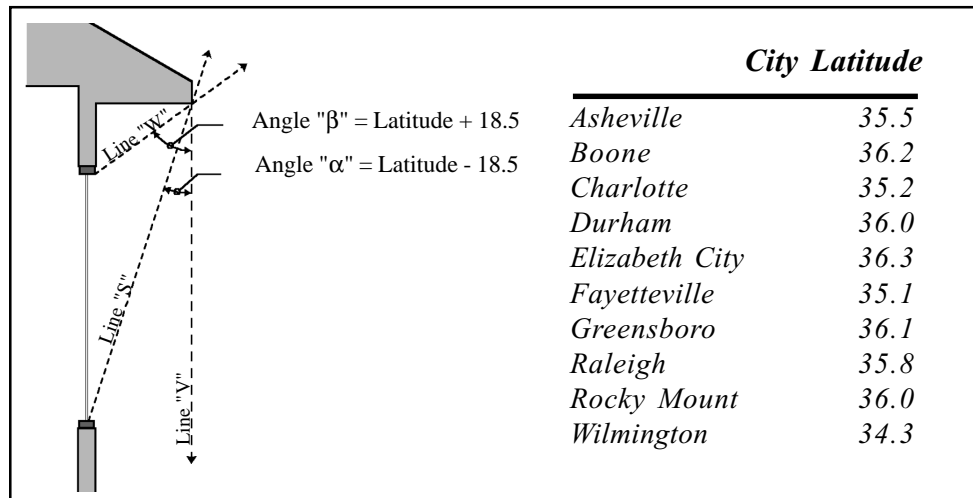

Figure 3. Calculating overhangs for sites in North Carolina
*Figure 3*, taken from *Building with Passive Solar* by the Southern Solar Energy Center, illustrates how orientation affects overhang effectiveness. The chart is designed to size overhangs to provide shading for the five most severe sun hours on August 1. For example, consider Raleigh, which sits at a latitude of  $36^\circ$ . Find the point where  $36^\circ$  intersects the "south-summer" curve. Then draw a line vertically downward to determine the feet of vertical wall in shade per foot of eave overhang. For Raleigh, this figure is about 3.3; that is a 1 foot overhang would shade 3.3 feet down the wall; a 2 foot overhang would shade 6.6 feet, and so on.